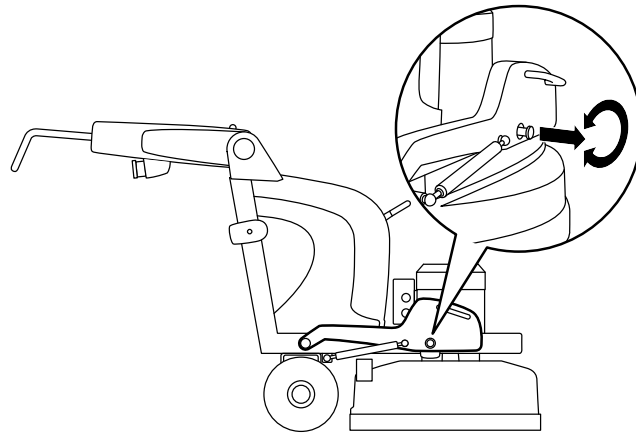

Figure 4-3 Weights lowered forwards
- Pull each pin out and lock in the extracted position by turning in the direction of the arrow, see Figure 4-3 on page 18.
To obtain a greater grinding pressure, and thereby increased grinding effect, the weights are lowered forwards, see Figure 4-3 on page 18.